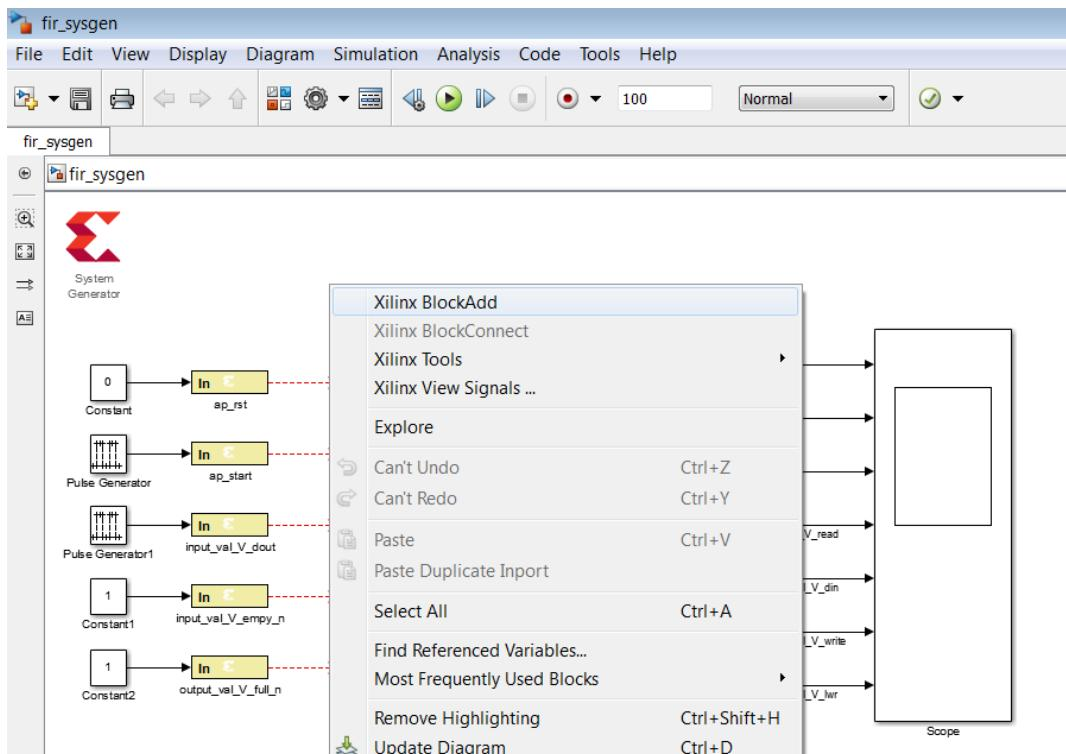

Figure 254 Adding an new Block
- Right-click with the mouse in the canvas and select Xilinx BlockAdd as shown in Figure 254.